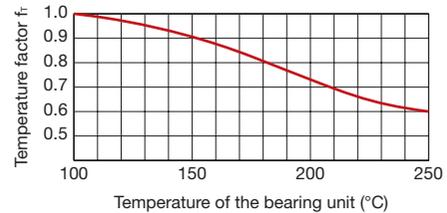

Fig. 1 Temperature factor (fT)
- fT : Temperature factor (see Fig. 1)